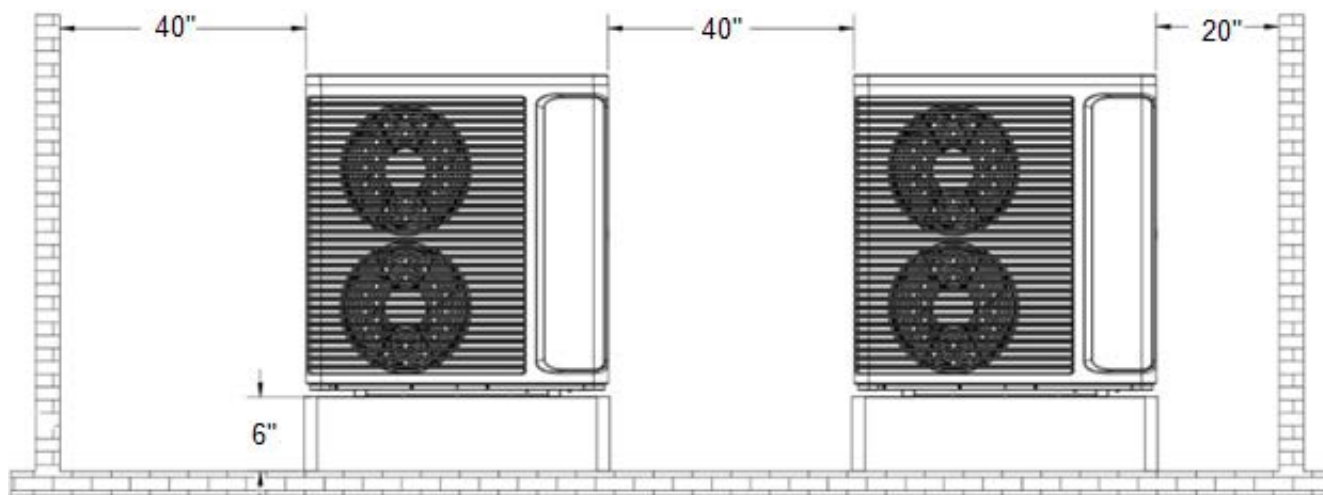

Figure 5-1: Minimum Service Clearances
1. Install unit outdoors with sufficient clearance for airflow into inlet and discharge air openings and adequate service access. Refer to Figures 5-1 and 5-2 for minimum clearances.